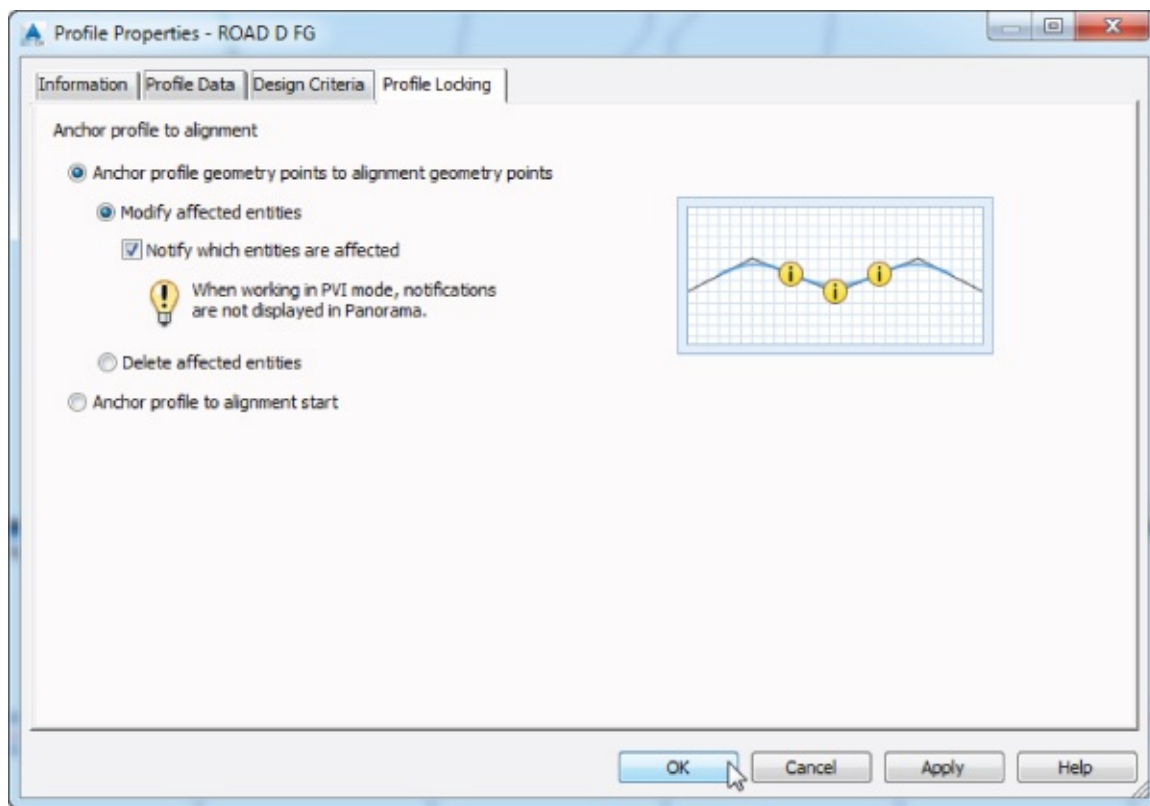

Figure 7.34 The Profile Locking tab of the Profile Properties dialog allows you to lock your vertical alignment to the horizontal geometry points.
11. Select ROAD D FG either from the profile view or through Prospector and access the Profile Properties dialog. The new Profile Locking tab is shown in Figure 7.34.